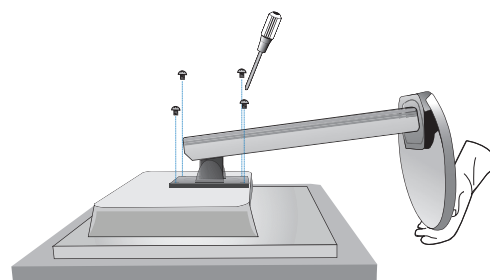

Figure S.1
- Place the monitor face down on a non-abrasive surface (**Figure S.1**).
- Remove the 4 screws connecting the stand to the monitor (**Figure S.1**).